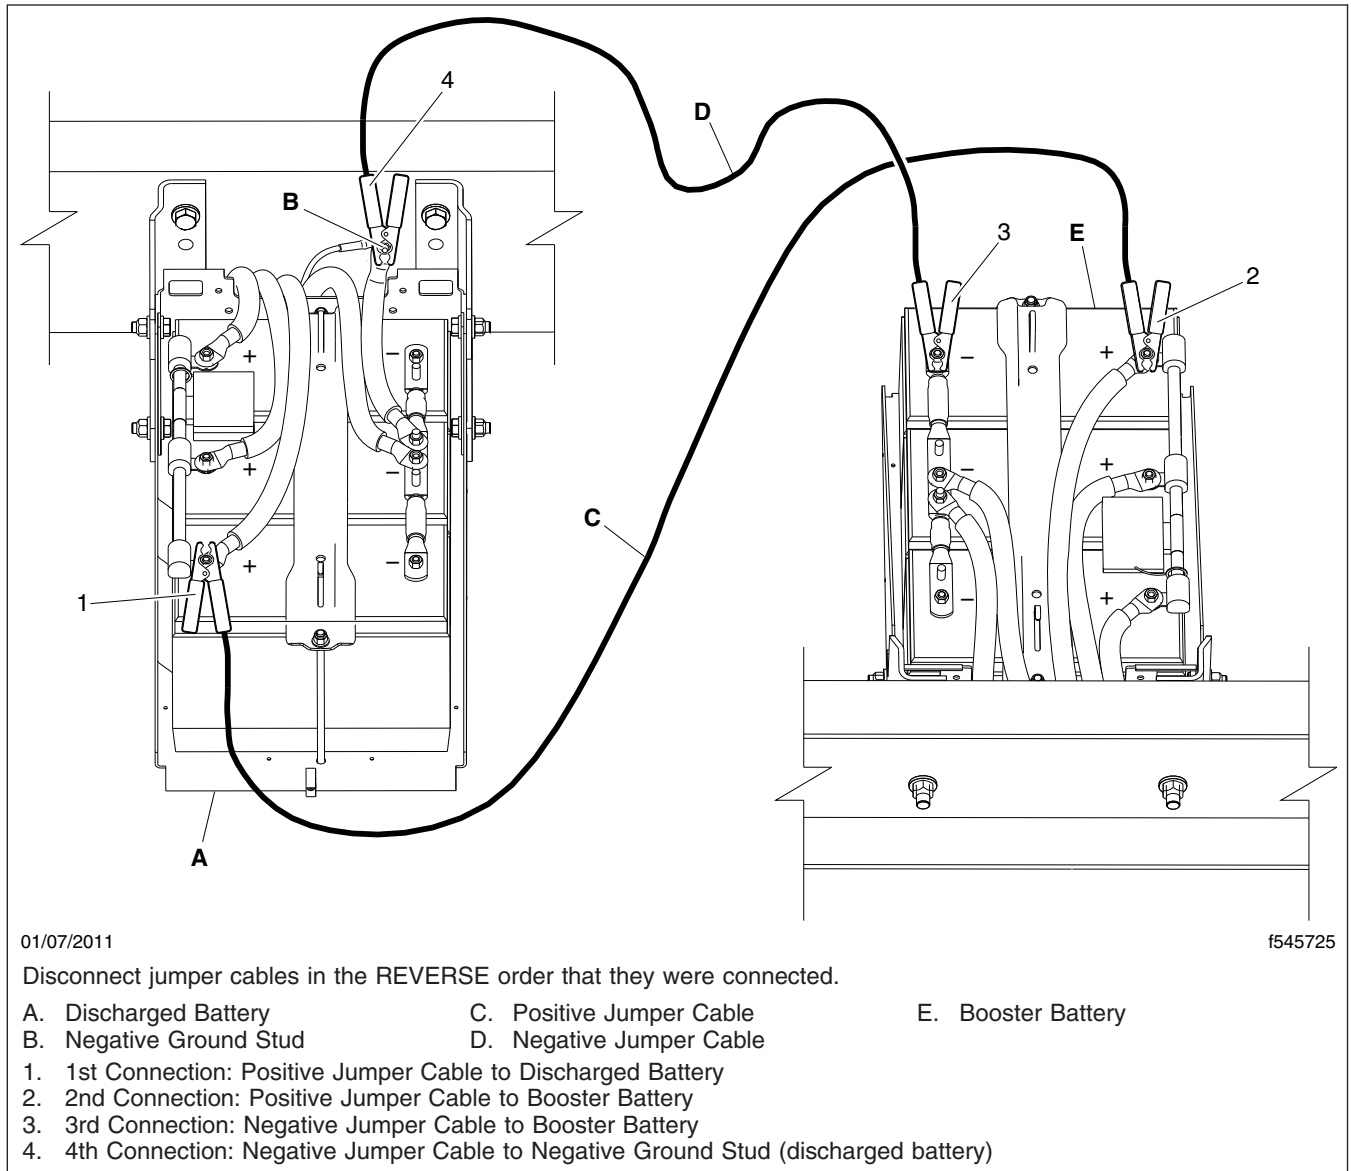

Fig. 21.4, Jumper Connections
3. Connect the positive (+) jumper cable to the positive battery terminal or jump start post. See Fig. 21.4.